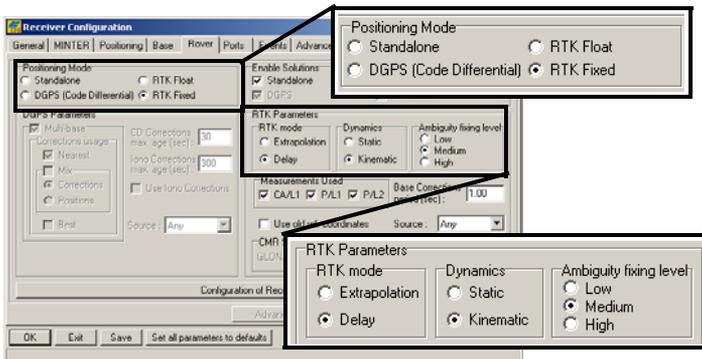

Figure 3-11. Rover Configuration
- For the Rover receiver, click the *Rover* tab and set the following parameters, then click **Apply** (Figure 3-11 on page 3-14).